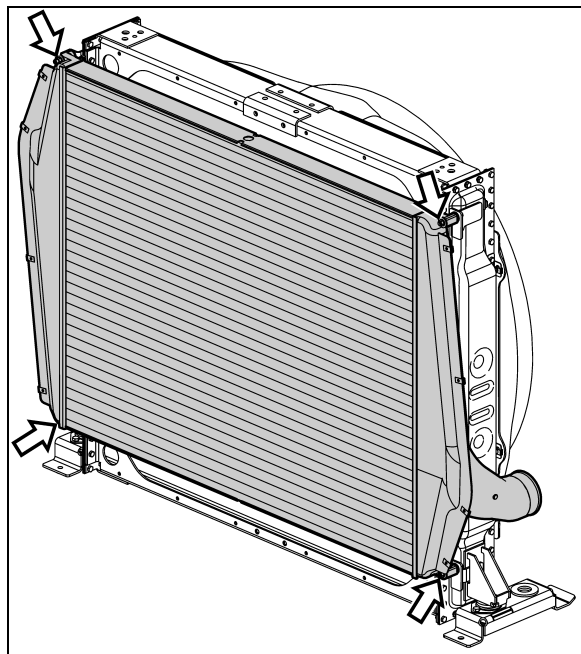

FIGURE 32: SEPARATING CHARGE AIR COOLER
- Separate charge air cooler from radiator (Figure 32).